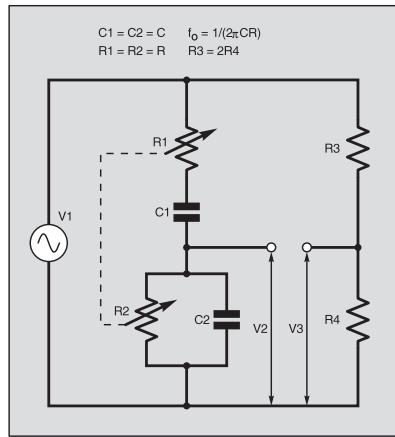
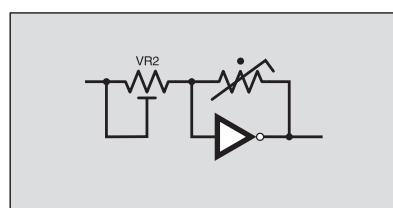
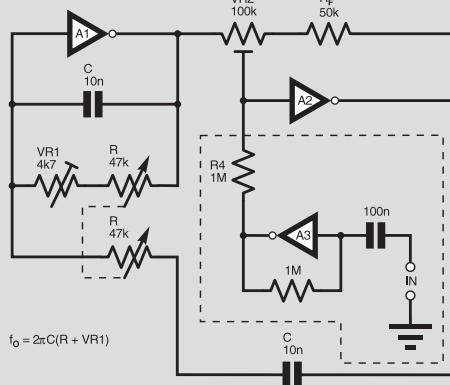
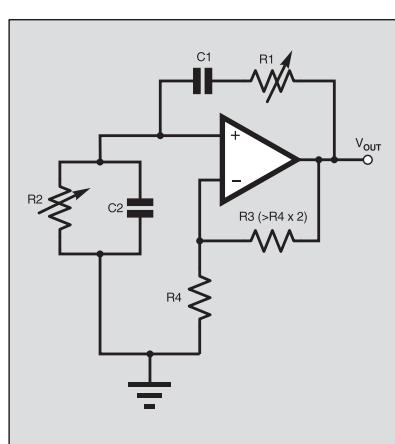

Fig.13. Wien bridge.
Fig.16. Using a thermistor in place of R_F in Fig.15.
Fig.15. Inverter gate version of Wien oscillator. The A3 section can be added to inject an external synchronising signal.
Fig.14. Wien bridge oscillator using an operational amplifier.
The reactive (RC) arms of a Wien bridge (Fig.13) can be used to set the frequency of a sine wave oscillator formed around an op-amp (Fig.14). In a Wien bridge, when $R1 = R2$, $C1 = C2$ (the usual case) balance (zero output) is obtained when $V2 = V3$, in which case C then has a reactance equal to R.
In oscillators, use is made of the fact that RC arms of the bridge form a frequency-selective voltage divider whose output is greatest at f_o . At frequencies away from f_o , output falls. When this network is used as a positive-feedback path in an amplifier (Fig.14) and the gain is just sufficient for oscillation, a sine wave at f_o is generated. Unfortunately, the Wien network is only very weakly frequency-selective. It does a poor job of discriminating against harmonics produced by the amplifier overloading. The waveform is distorted.
The standard circuit (Fig.14) does not translate into inverter-oscillator form because an inverter has only one input terminal. It can, however, be adapted to a 2-inverter circuit, as illustrated in Fig.15.
No device for automatic amplitude limiting is shown in Fig.15. The job could be done by substituting a thermistor for the feedback resistance across A2 as in Fig.16. VR2 would then provide oscillation level adjustment and should have a mid-value equal to the working thermistor resistance.
If very low distortion is not required, a fairly good sine wave can be obtained from the circuit as shown in Fig.15 if set-up carefully, as follows: